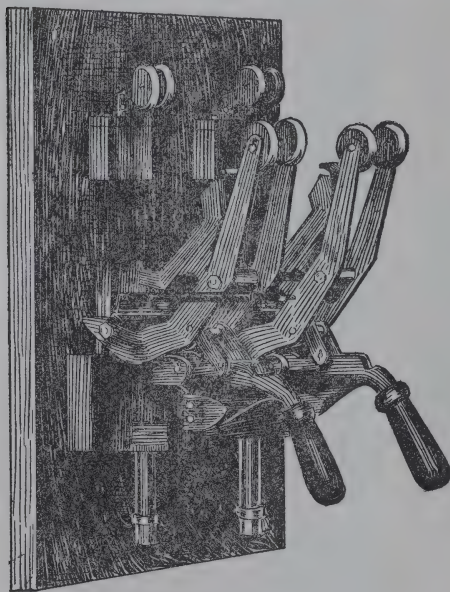

Fig. 46
16. *Circuit Breakers* (Fig. 46).—Electro-magnets are used to open switches and thus protect dynamos and other machines against a larger electric current than they are able to carry. The switch is held